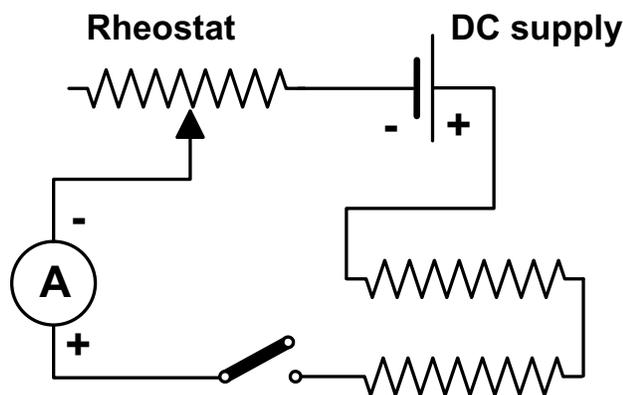

Figure 4
- A.** Connect the DC supply, the switch, rheostat, ammeter and the two mounted wire-wound resistors in series as shown in Fig. 4. Measure the potential difference across each resistor separately, and across the two in series. Note the ammeter reading.